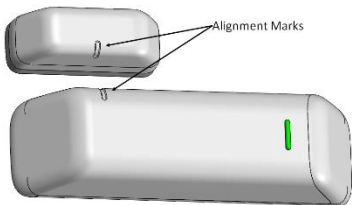

Figure 2
- mounting the sensor and magnet ensure the marks on the sensor and magnet are aligned (Figure 2). The LED on the sensor should be positioned at the top when possible. Ensure you have space to slide open the battery door when positioning the sensor.